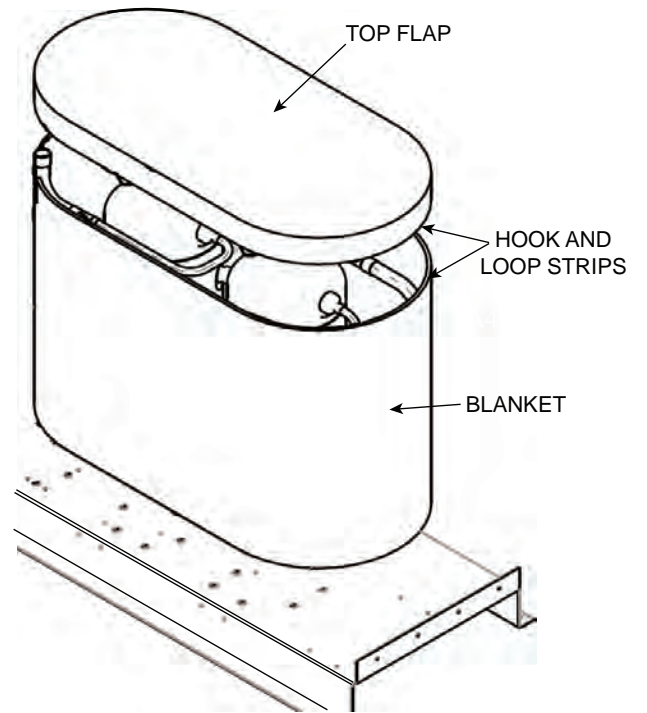

**Fig. 11 — 48/50A 060 Size Compressor Access**
- a. Remove optional condenser grilles if equipped. See Fig. 11.